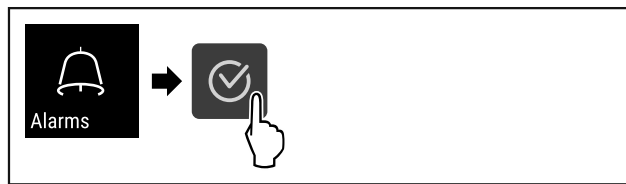

Fig. 125
- ▶ Complete steps (see Fig. 125).